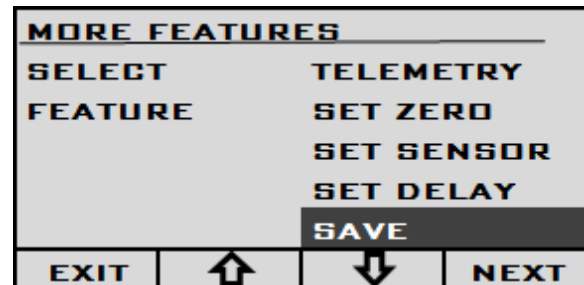

Figure 6.2.3: SAVE option.
6) To save your DP sensor selection go to the SAVE option on the MORE FEATURES screen and press the NEXT key. (Figure 6.2.3)